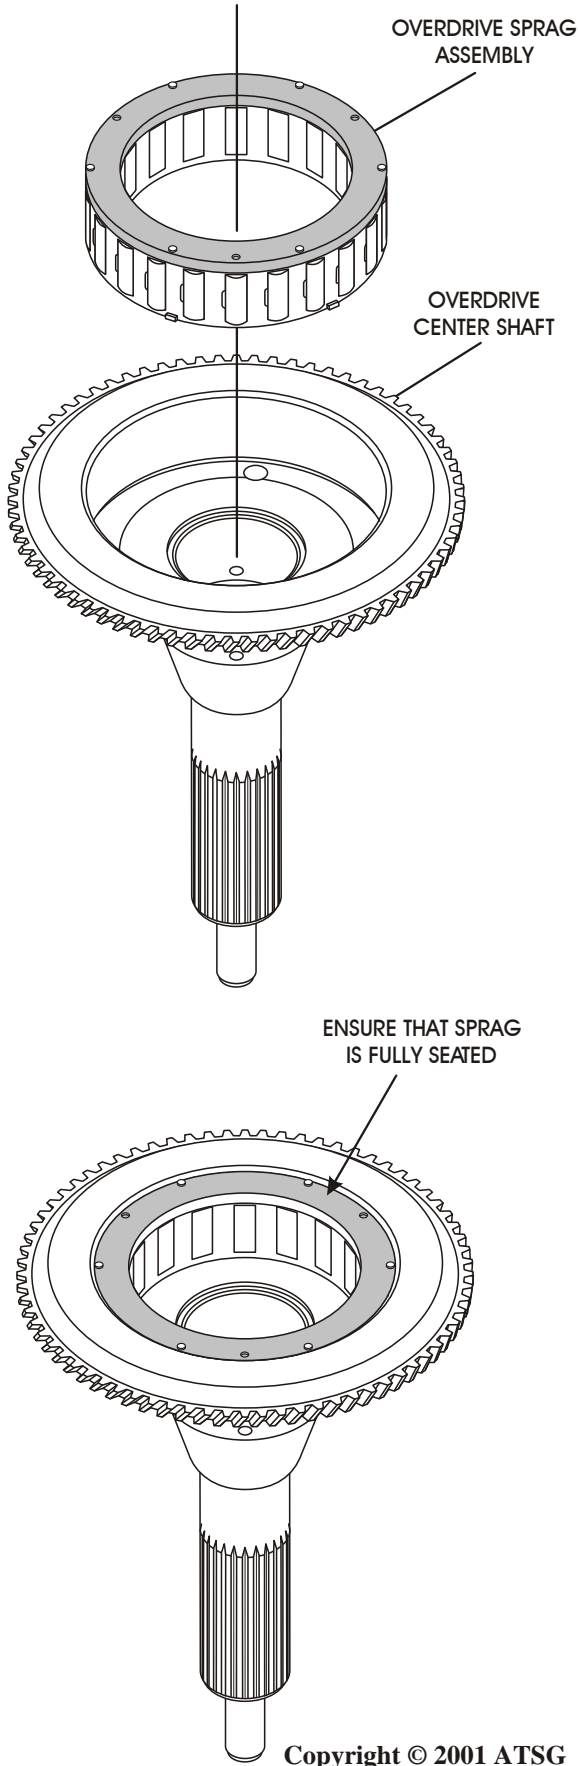

Figure 71
4. Install the overdrive sprag assembly into the overdrive center shaft, in the direction shown in Figure 71, until fully seated.